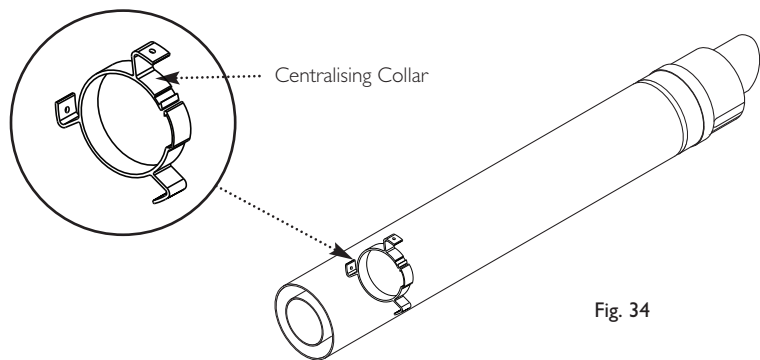

Fig. 34
7. Take the centralising collar (if not already fitted) and engage it over the flue duct. This will centralise the flue and air ducts, and ease assembly (Fig. 34).